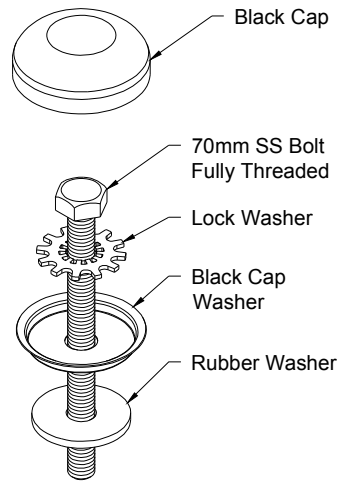

Figure 1. Cap Front Install Hardware
6. Install the black plastic caps over the four bolts on the front of the cap. See **figure 1**.